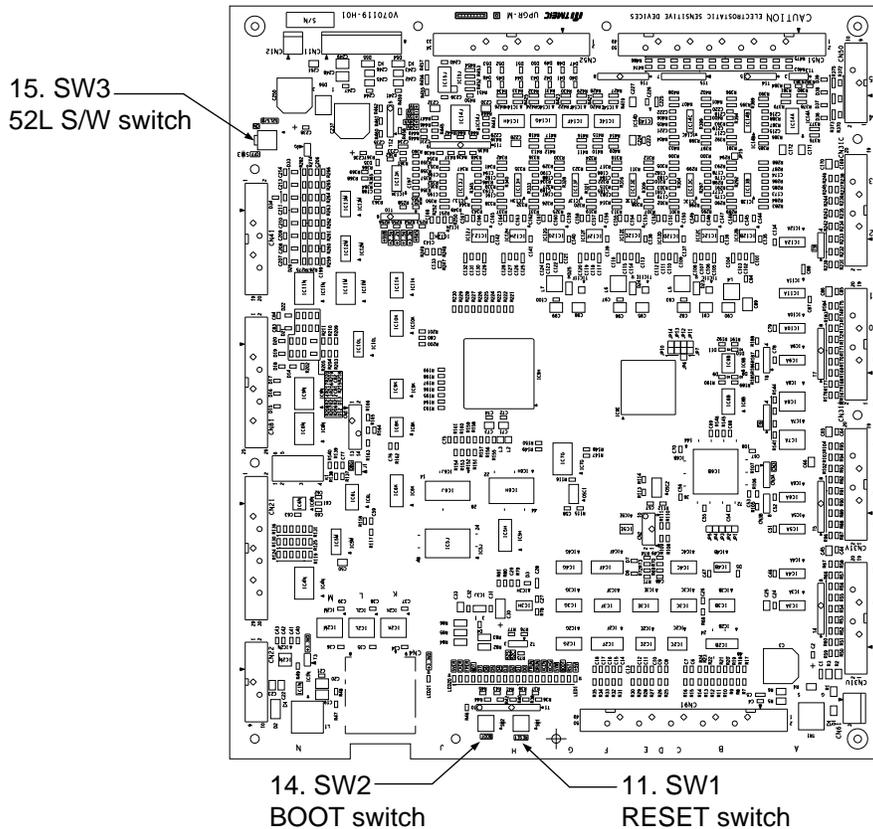
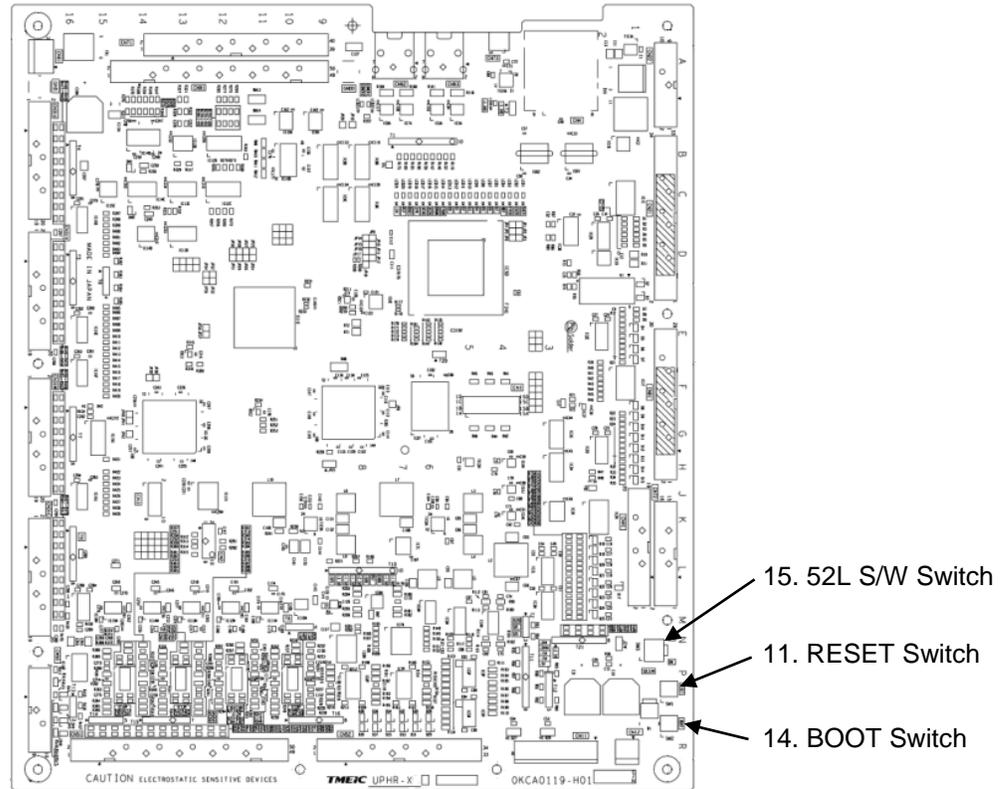

Figure 3-11 MAIN PCB UPGR-M*
Figure 3-12 MAIN PCB UPJR-C*
Description of Figures Figure 3-8 to Figure 3-12
4. Main PCB UPGR-M*/ UPJR-C* (Figure 3-11 & Figure 3-12):